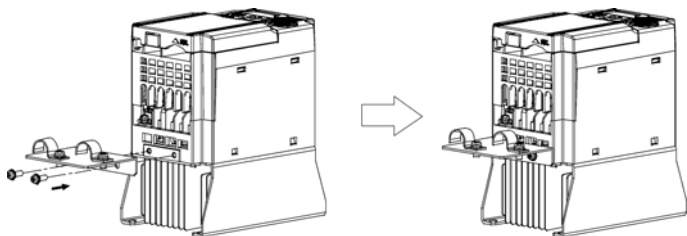

Figure 11.1 Attaching the EMC Grounding Flange
- (1) Mount the EMC grounding flange (that comes with the inverter) to the inverter with screws in order to ground the wire shield(s). (See Figure 11.1.)